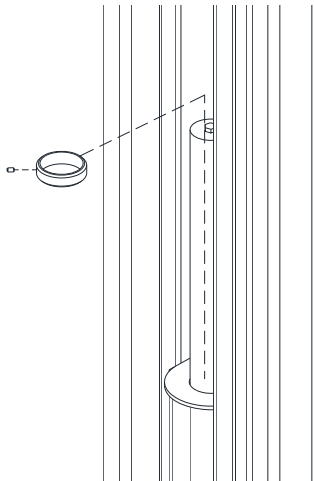

Fig. 24 – Cylinder Clamp Ring
- 60) Install Cylinder Clamp Ring to each cylinder as shown in **Fig. 24** using M6 set screw.